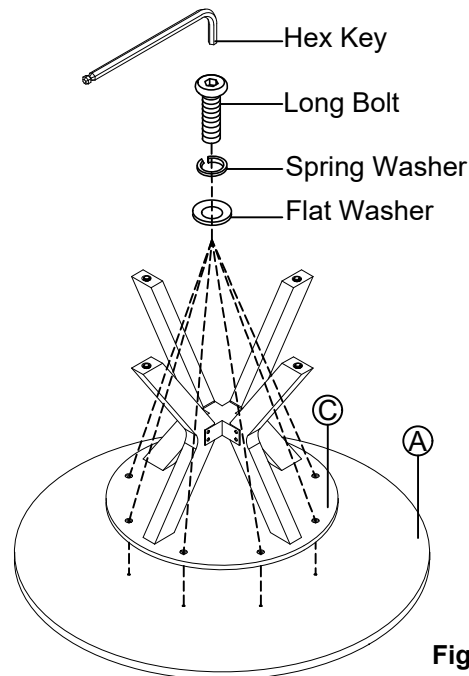

Figure 3
Attach Connecting Panel (C) to Table Top (A) by 8 Long Bolt (3), 8 Spring Washer (2) and 8 Flat Washer (1), fully tighten with Hex Key (5). (See Figure 3.)